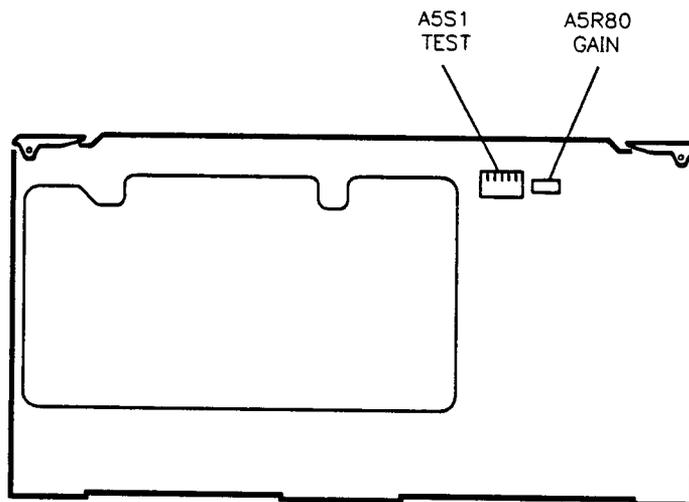

Figure 3-13. Switch and Adjustment Locations
4. On the A5 assembly, set all five switches on A5S1 to the closed position (see Figure 3-13).
5. Adjust A5R80 (see Figure 3-13) to center the “needle” on the display.